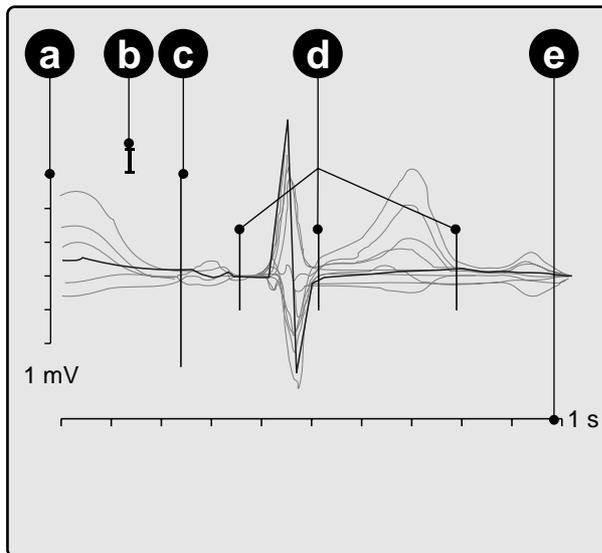

Figure 5-18. Verification of the global measurement points
- After acquisition of the ECG, press R_s^4 to display the screen for verification of the global measurement point markers (Figure 5-18).